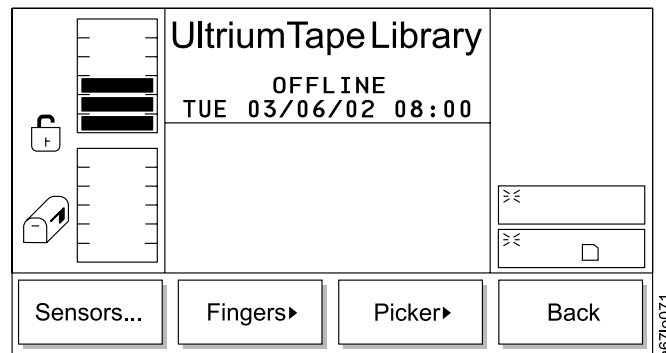

Figure 165. Diags Submenu
- If **Diags** is selected, the Diags Submenu displays (see Figure 165 on page 135).
- If **Cancel** is selected, the Diags Submenu displays (see Figure 165 on page 135).
- If **Back** is selected, the Diags Submenu displays (see Figure 165 on page 135).